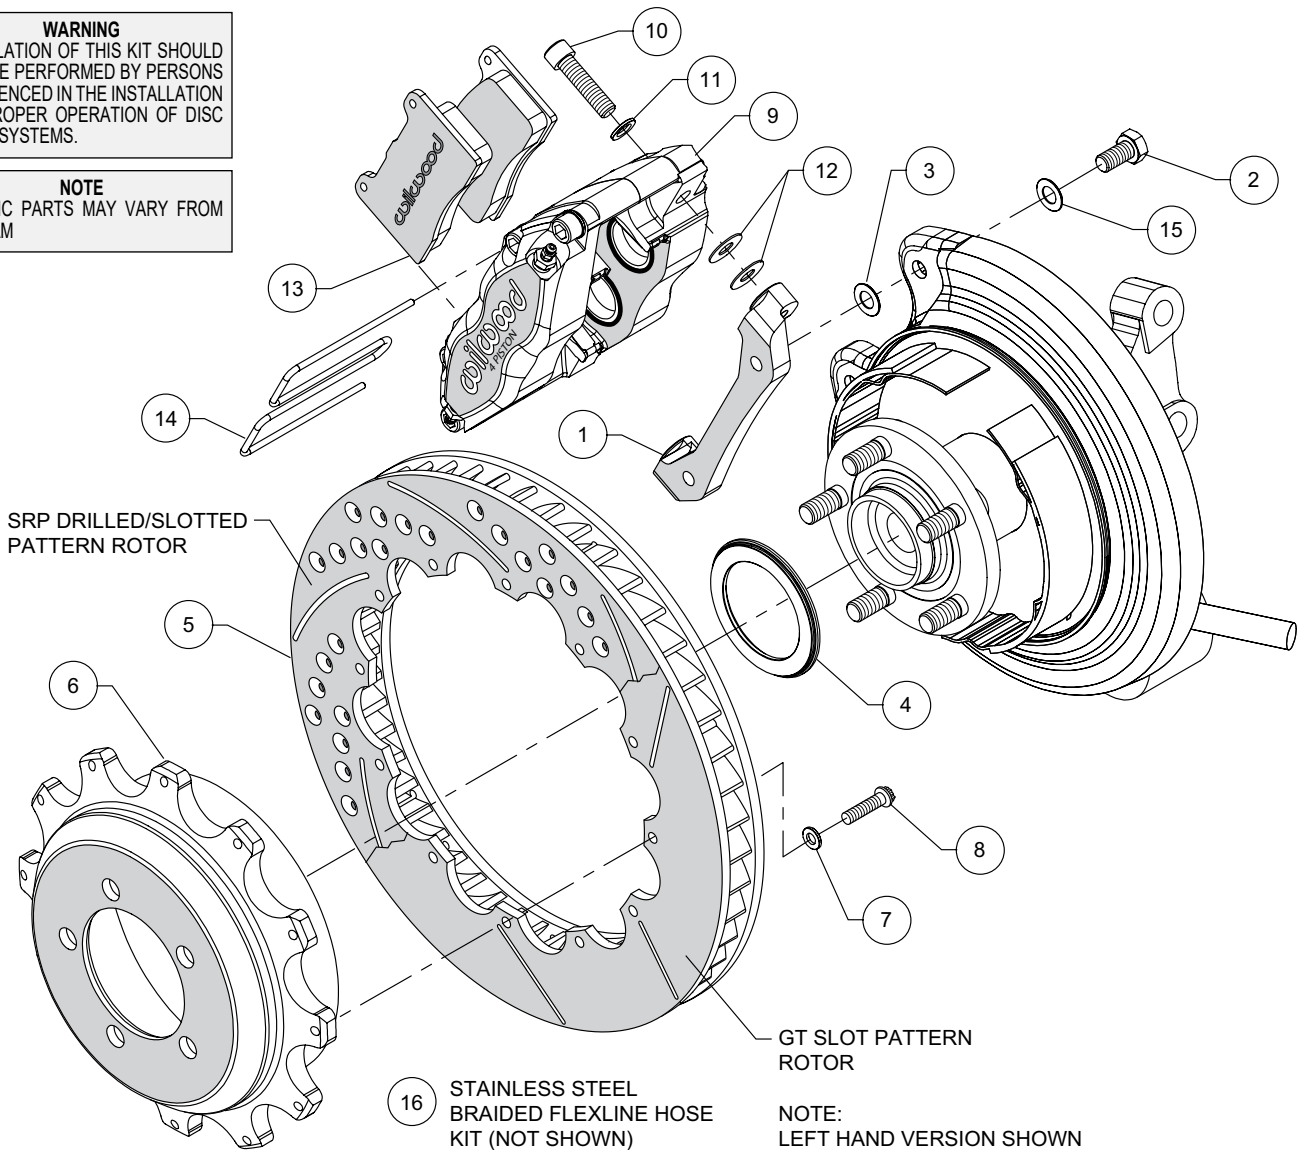
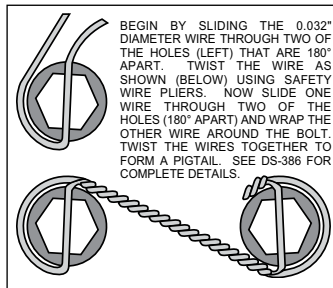

Figure 1. Typical Installation Configuration
Figure 3. Safety Wire Diagram
**NOTE:** Numbers in parenthesis refer to the parts list and Figure 1 on the preceding pages.
- The caliper mount bracket (1) should initially be installed with clean, dry threads on the mounting bolts. Orient the bracket as shown in Figure 1 and Photo 3, and install using washers (15) and bolts (2). Initially place one shim (3) on each bolt between the bracket and upright, Figure 1. Temporarily tighten the mounting bolts. **NOTE:** The bracket must fit squarely against the mount bosses on the upright. Inspect for interference from casting irregularities, machining ridges, burrs, etc. Later, after the caliper alignment has been checked, the mount bolts will be secured using red *Loctite*® 271.
- Orient the rotor (5) and the hat (6) as shown in Figure 1 and Photo 4. Attach rotor to hat using bolts (8) and washers (7). Apply red *Loctite*® 271 to the bolt threads and torque to 140 **in-lb** using a criss-cross pattern. For an added measure of security, the bolts may be safety wired using standard 0.032 inch diameter stainless steel safety wire as shown in Figure 3. Please refer to Wilwood's data sheet DS-386 (available at [www.wilwood.com/Pdf/DataSheets/ds386.pdf](http://www.wilwood.com/Pdf/DataSheets/ds386.pdf)) for complete safety wire installation instructions.
- Slide the rotor registration adapter (4) onto the axle register on the axle hub with the smaller O.D. facing outward, Photo 5. Slide the hat/rotor assembly onto the axle hub. **NOTE:** The hat must fit flush against the axle hub flange or excessive rotor run out may result. Install three lug nuts (finger tight) to keep the hat/rotor assembly in place while continuing with the installation.
- Mount the caliper (9) onto the bracket (1) using bolts (10) and washers (11), Figure 1. Initially place two .035" thick shims (12) on each bolt between the caliper and bracket as shown in Figure 1 and Photo 6. Temporarily tighten the bolts and view the rotor through the top opening of the caliper. The rotor should be centered in the caliper, Photo 7. If not, adjust by adding or subtracting shims (3) between the bracket and the upright. Once the caliper alignment is correct, remove the bracket mounting bolts one at a time, apply red *Loctite*® 271 to the threads, and torque to 35 ft-lb.